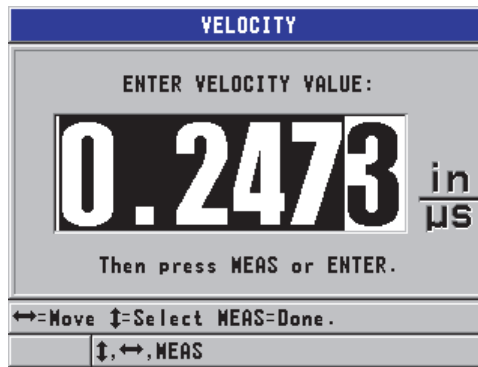

Figure 5-9 Entering a known material sound velocity
2. In the **VELOCITY** screen (see Figure 5-9 on page 70), use the arrow keys to edit the velocity to the known value.